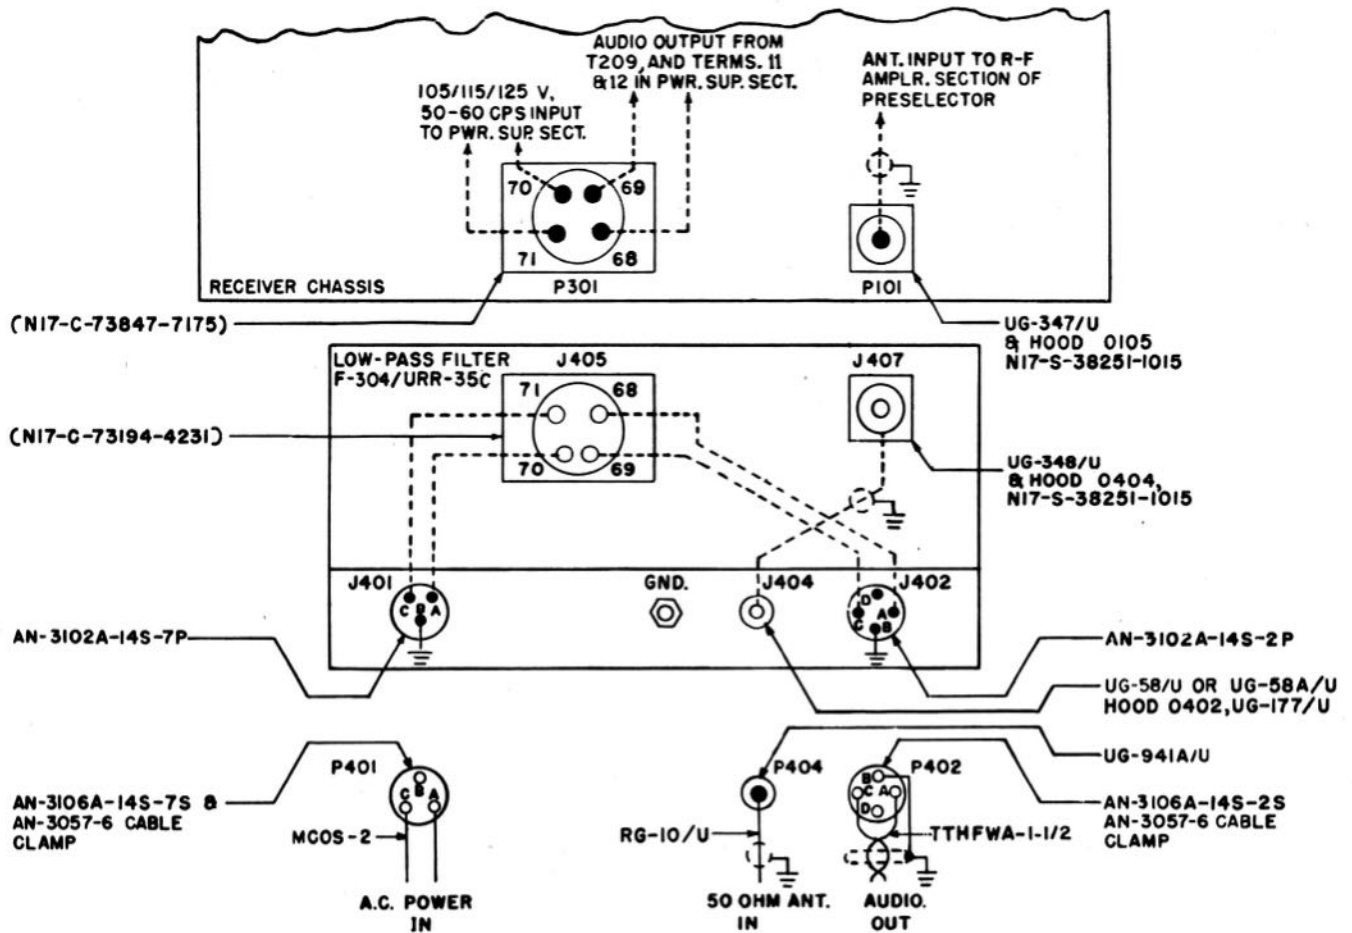

Figure 3-5. Connectors and Cables for External Connections
b. EXTERNAL CONNECTIONS.—External connections are made to suitable connectors on Low-Pass Filter F-304/URR-35C, which is attached to the rear of the receiver cabinet; see figure 1-3. Cables for making external connections to the receiver are not supplied, but connector plugs suitable for use with such cables are provided. The types and functions of these plugs are indicated in figure 3-5 and summarized in table 3-1.